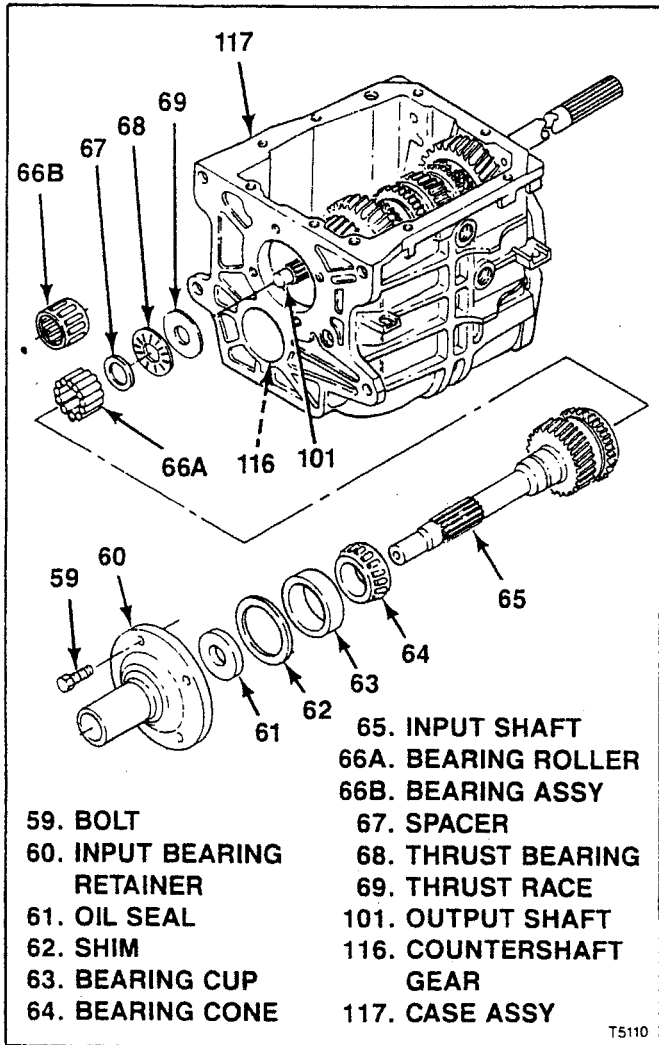

Figure 3-7. T5 WC Input Shaft
3-13. REMOVAL OF T5 WC INPUT SHAFT. Make alignment mark on input bearing retainer (60) and transmission case (117) and proceed as follows (see figure 3-7):
- a. Remove bolts (59).
- b. If necessary, use suitable knife to break sealant bond between input bearing retainer (60) and transmission case (117). Pull bearing retainer straight out.
- c. Use suitable puller to remove oil seal (61) from input bearing retainer (60).
- d. Remove shim(s) (62) and bearing cup (63).
e. Rotate input shaft (65) to align flat on its clutch tooth ring with countershaft (116) and remove from transmission.
f. If necessary, remove bearing cone (64) from input shaft (65) using suitable puller.
g. Remove pilot bearing between input shaft (65) and output shaft (101) as follows, depending on bearing type:
1. Individual Bearing Rollers. Remove 15 bearing rollers (66A) and spacer (67).
h. Remove thrust bearing (68) and thrust race (69) from end of output shaft (101).